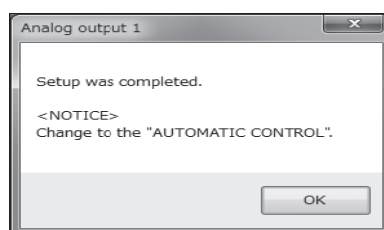

Fig.43
- ⑤ Click "OK" to change the settings to the inputted values, and then click the "OK" button in the displayed message box (Fig. 43) to complete the setting process.